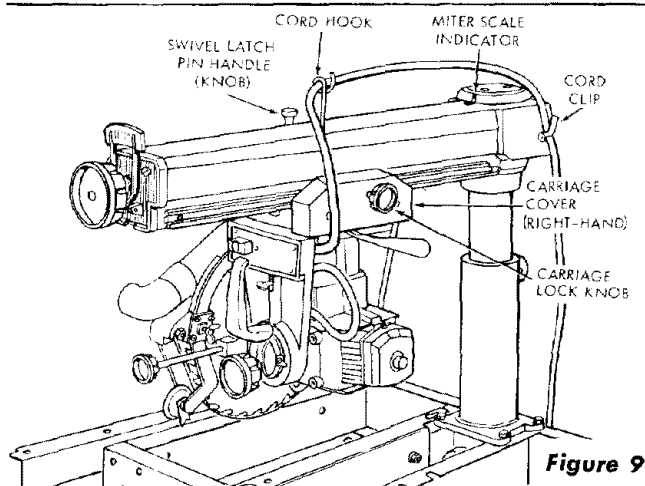

Figure 9
- 6. Installing Remaining "Loose Parts": (See figure 9)**